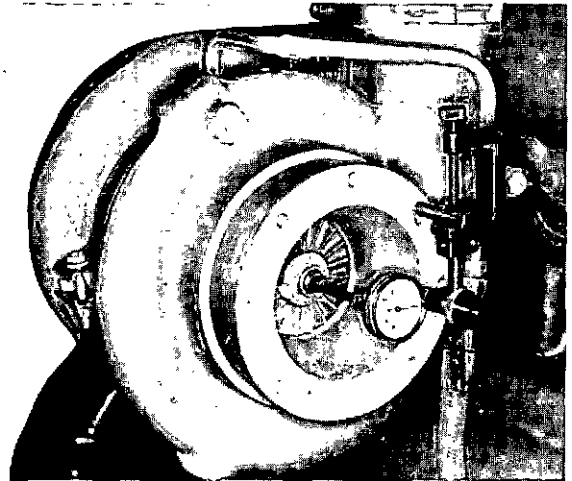

Fig. 2-56 (N11956) Checking turbocharger bearing end clearance
Check bearing clearances every "D" Check. This can be done without removing the turbocharger from the engine, by using a dial indicator to indicate end-play of the rotor shaft and a feeler gauge to indicate radial clearance. Fig. 2-56.
2. Remove one capscrew from the front plate (compressor wheel end) and replace with a long capscrew. Attach an indicator to the long capscrew and register indicator point on end of rotor shaft. Push shaft from end-to-end making note of total indicator reading. Fig. 2-56. On T-35, end clearance should be 0.004 to 0.015 [0.10 to 0.38 mm]. On T-50, ST-50 and VT-50 end clearance should be 0.005 to 0.018 inch [0.13 to 0.46 mm].